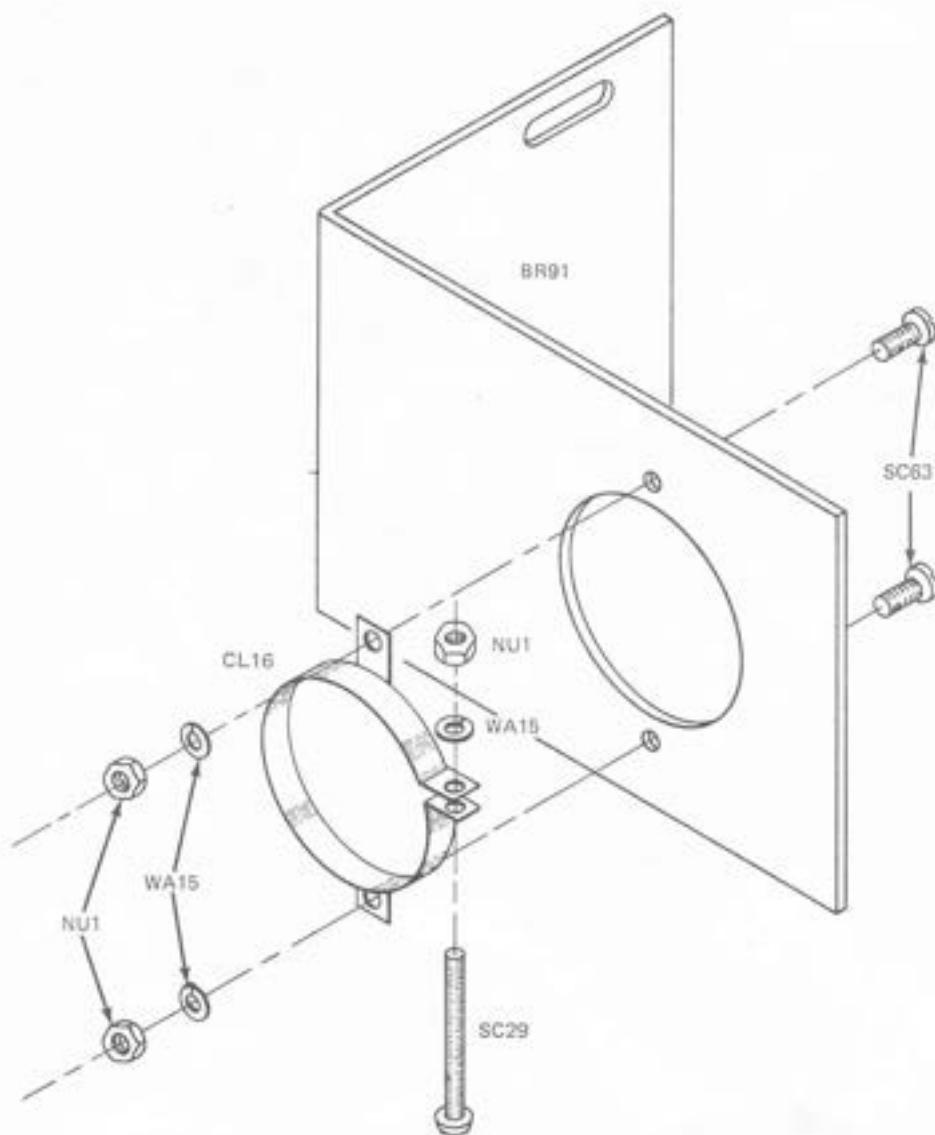

Figure 36. Installing the crt clamp (back).
(4) Install the crt clamp (CL16) on the crt support bracket (BR91) using the hardware shown in Fig.36. Do not tighten the nut on SC29 at this time. You will tighten this nut after you install the crt. ()